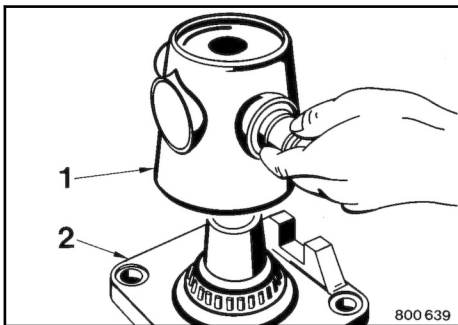

Fig. 190
Pull bearing housing 1 ↗ Fig. 190 off bearing journal (2).